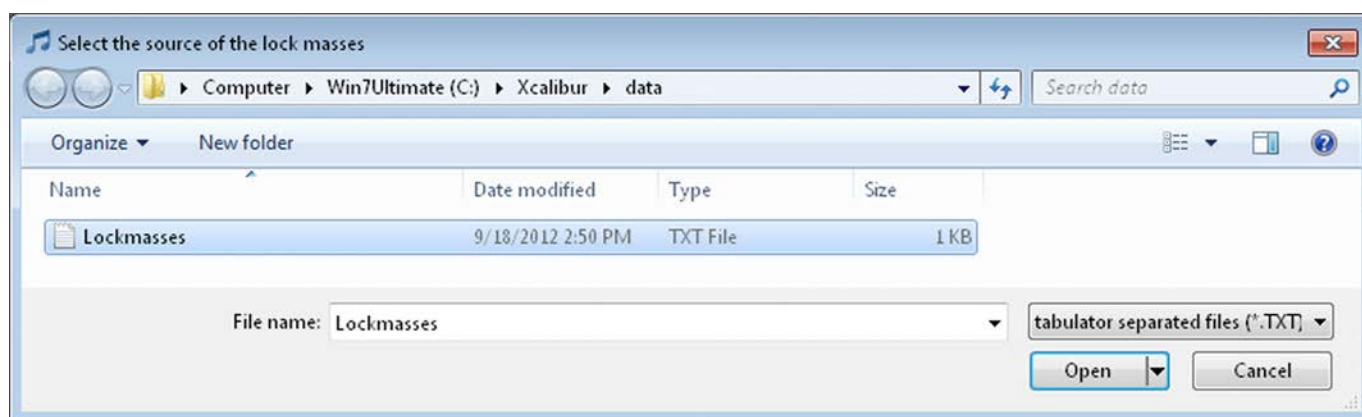

Figure 5-4. Selecting the lock mass import file
2. Choose **Import > Merge with file content** to open the file selection dialog box. See Figure 5-4.